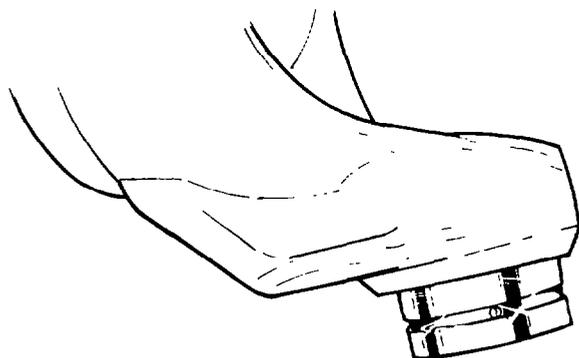

Fig. 374 — Installing Lower Kingpin Mounting Stud
- o. Rest the spindle yoke with its inboard side down then install the lower kingpin mounting studs (see fig. 374).